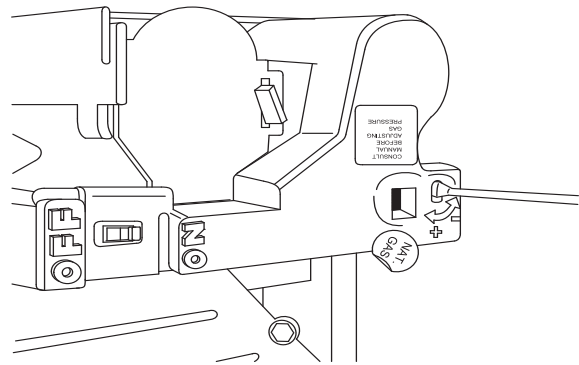

Fig. 25 – Modulating Gas Valve Adjustment
11. On some models, apply pipe dope sparingly to end of 1/8-in. (3 mm) pipe plug and install in the manifold pressure tap opening, see Fig. 7. Or, on some models, tighten set screw on manifold tower pressure tap with a 3/32-in. hex wrench, see Fig. 25)